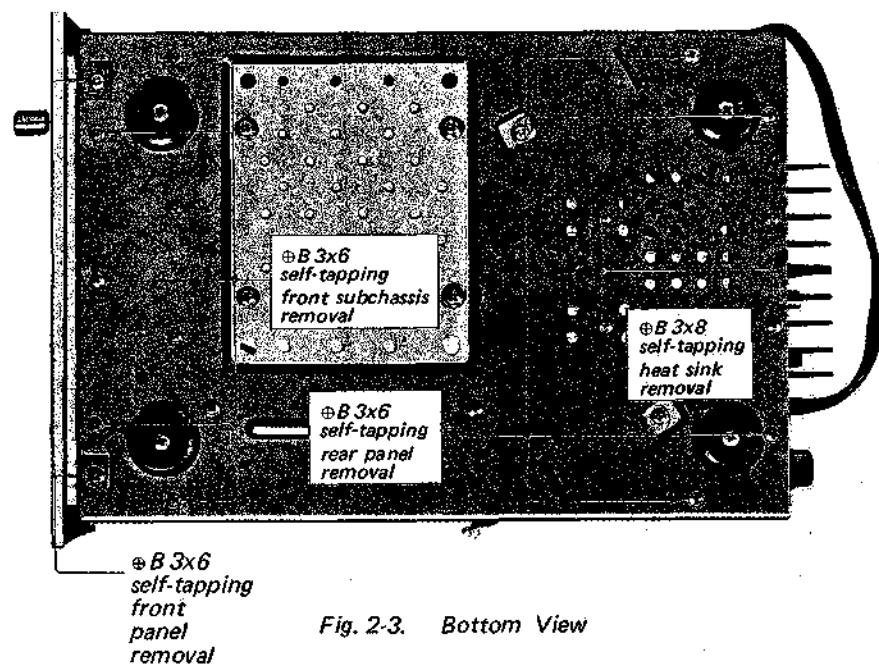

Fig. 2-3. Bottom View
4. Remove the two self-tapping screws (\oplus B 3x6) at the front bottom of the chassis as shown in Fig. 2-3. This frees the front panel.
2. Remove the five self-tapping screws ($\oplus B\ 3\times 6$) at front bottom of the chassis as shown in Fig. 2-3. This frees front sub-chassis.
2. Remove the two self-tapping screws ($\oplus B\ 3\times 8$) securing the heat sink to the chassis at the bottom as shown in Fig. 2-3.
2. Remove the four self-tapping screws ($\oplus B\ 3\times 6$) at the rear bottom of the chassis as shown in Fig. 2-3. This frees rear panel.